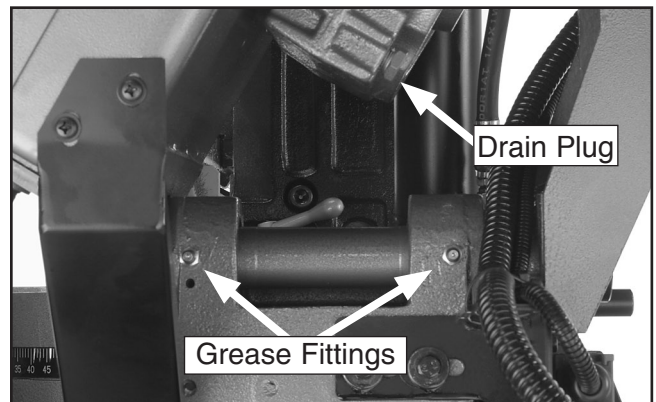

Figure 38. Lubrication points.
Before applying lubricant to any area, wipe the area clean to avoid contamination. Lubricate the vise leadscrew and the grease fittings at the pivot point shown in **Figure 38** with general purpose grease.
4. Drain the gearbox by removing the drain plug shown in **Figure 38**.